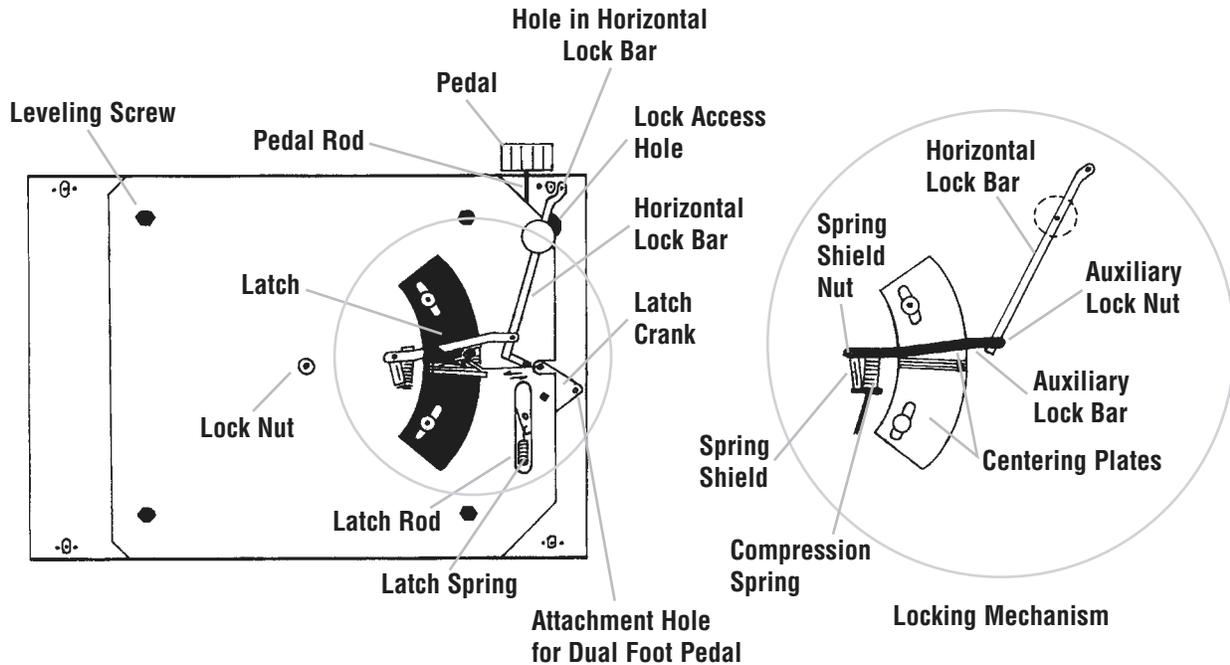

Figure 2 - Underside of Main Base
Step 1 - Base Preparation (Figure 2)